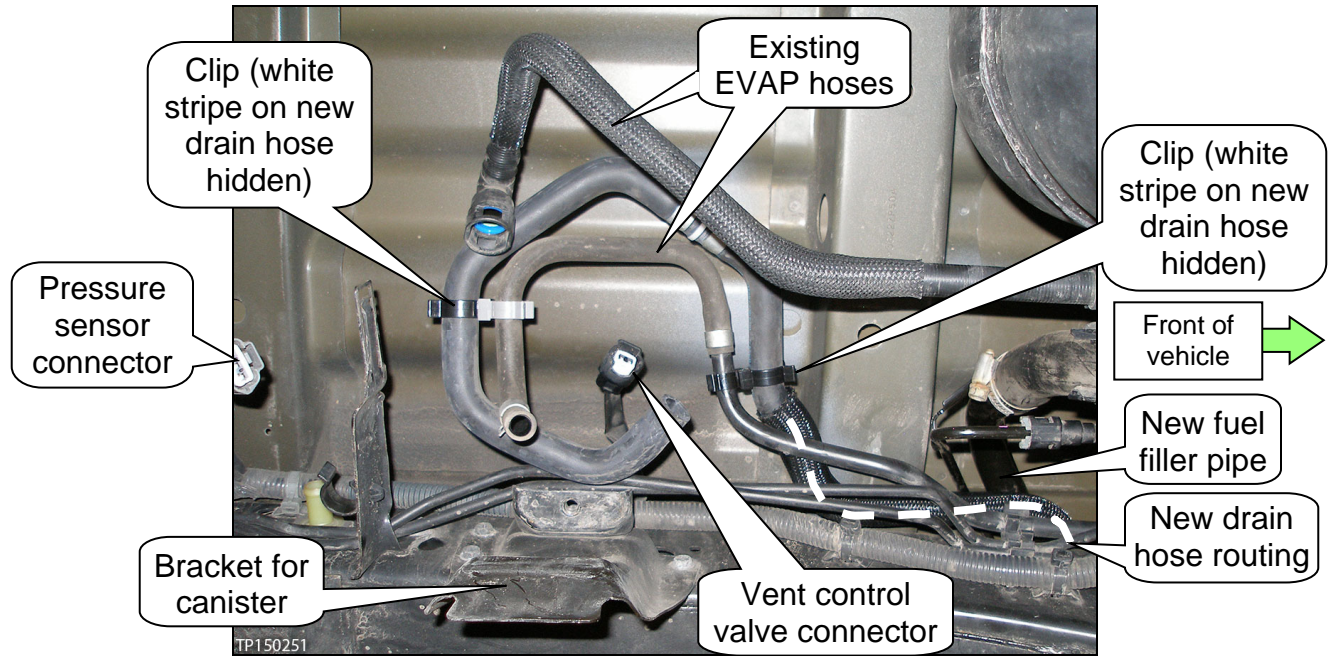

Figure 12: King Cab and long wheel base Crew Cab
6. Route the new drain hose and attach with clips as shown in Figure 12 and 13 (as it applies).
- Figure 12 and 13 are viewed while looking up under the vehicle bed.